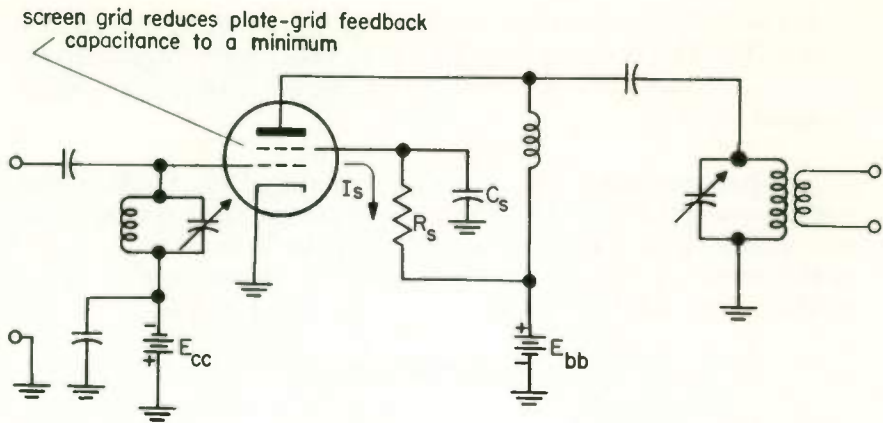

Fig. 18 A TPTG amplifier using a tetrode tube.
Figure 18 shows a TPTG amplifier circuit using a tetrode. Voltage is supplied to the screen grid through the screen dropping resistor R_s . Since the screen must be kept at a positive potential (less than the plate supply voltage E_{bb}), it will draw current. The screen current I_s then causes a voltage drop across R_s , and the voltage on the screen is E_{bb} minus the drop across R_s . No a-c voltage must appear on the screen while the circuit is in operation, so a bypass capacitor C_s is provided to short any a-c on the screen to ground.
1. If in Fig. 18 the value of the plate supply voltage E_{bb} is 300 volts
2. What is the purpose of the screen bypass capacitor C_s in Fig. 18?
3. Redraw Fig. 18 using cathode bias to eliminate E_{cc} .